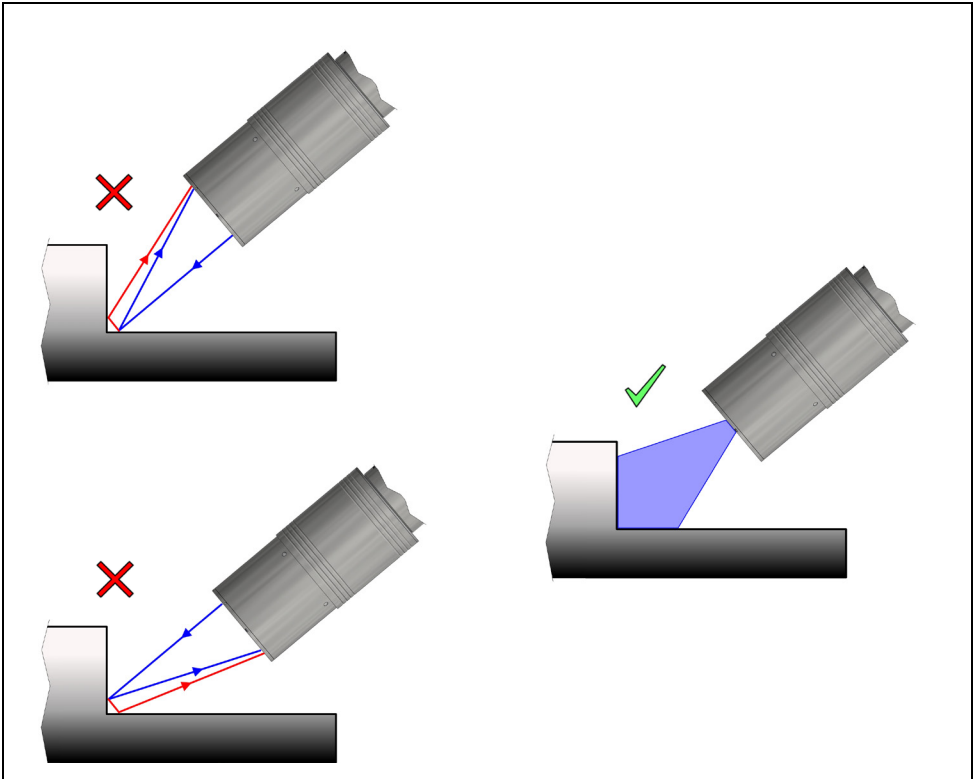

Fig. 15 Secondary reflections
- To avoid secondary reflections, align the sensor according to Fig. 15 .